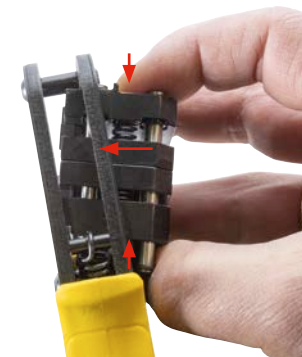

Fig. 7:
- Keeping the insert compressed, tilt the insert and place it from the back side (no marking on tool) in the tool frame to the approximate position as shown in Fig. 7.